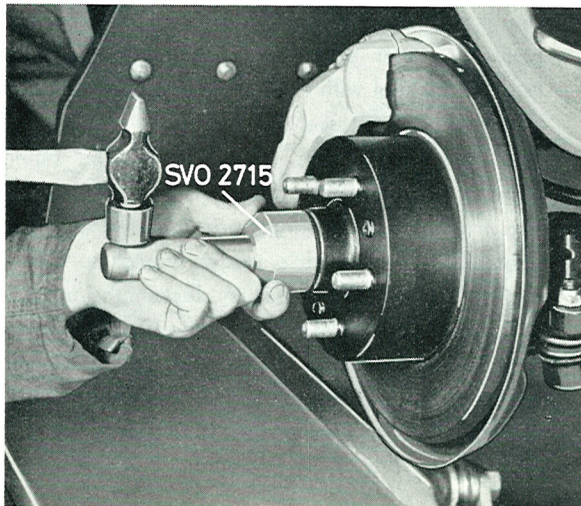
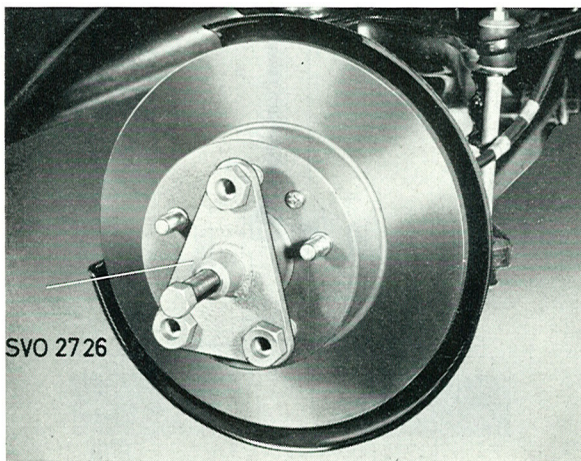

Fig. 7-14. Removing the grease cap
Fig. 7-15. Removing the hub
4. Remove the grease cap with tool SVO 2715 (Fig. 7-14). Remove the split pin and castle nut. Pull off the hub with puller SVO 2726 (see Fig. 7-15). Pull off the inner bearing from the stub axle with puller SVO 2722 (see Fig. 7-16) if the bearing remains in place.